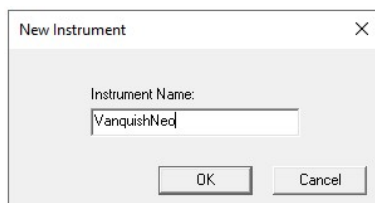

Figure 20: New instrument
- 2) Open the Chromeleon Instrument Configuration Manager and add a new Instrument. For Thermo Xcalibur/SII for Xcalibur installations, open Xcalibur Instrument Configuration, select SII for Xcalibur and configure device, press Configure / Configure Device and add a new Instrument (Figure 20).